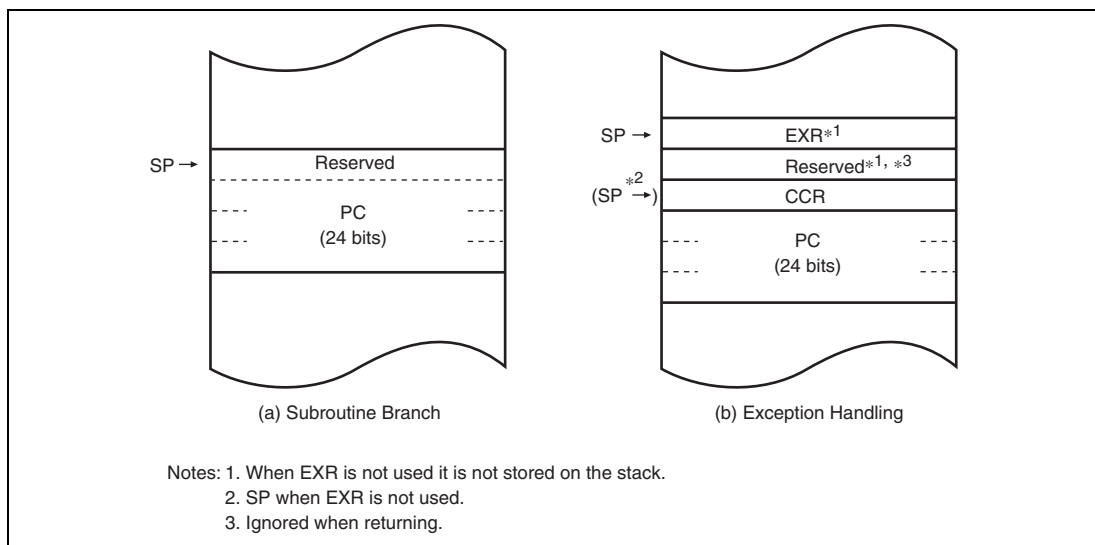

Figure 2.4 Stack Structure in Advanced Mode
In advanced mode, when the program counter (PC) is pushed onto the stack in a subroutine call, and the PC, condition-code register (CCR), and extended control register (EXR) are pushed onto the stack in exception handling, they are stored as shown in figure 2.4. When EXR is not pushed onto the stack in interrupt control mode 0. For details, see section 4, Exception Handling.